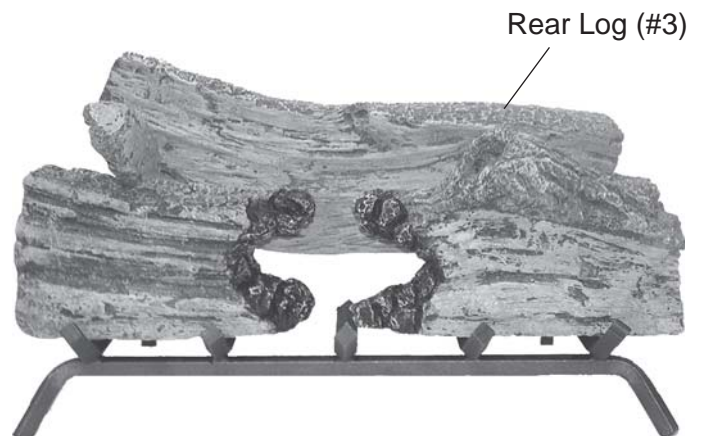

Figure 105 - Installing Rear Log #3
5. Fit cutout in the bottom left of Rear Log #3 over the back end of Log #2. Rest right end of Log #3 on rear grate bar. See Figure 105.